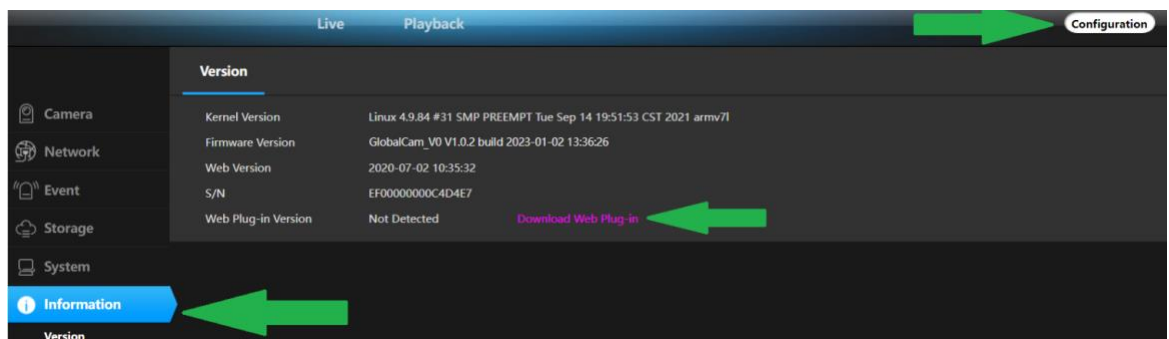

Figure 2.5 Download Web Plug-in
- a. Log in to IP camera following steps found in 2.4 then make selections found in figure 2.5